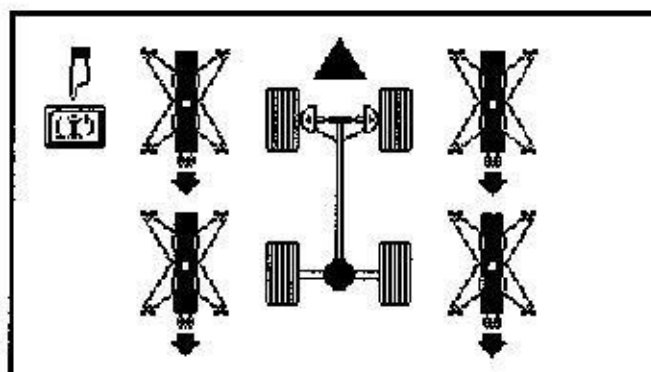

Figure 2-42
4. The screen shown in Figure 2-42 appears.